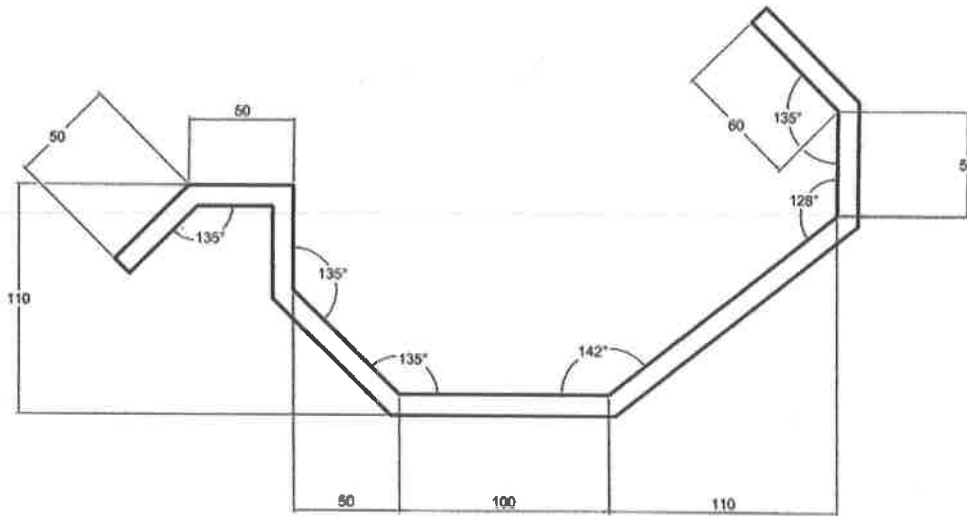

Figure 4
- (b) A side view drawing in **Figure 4** shows a 'bracket for Wash Trough'. In order to fabricate the item a true total developed length is required. Assuming that the